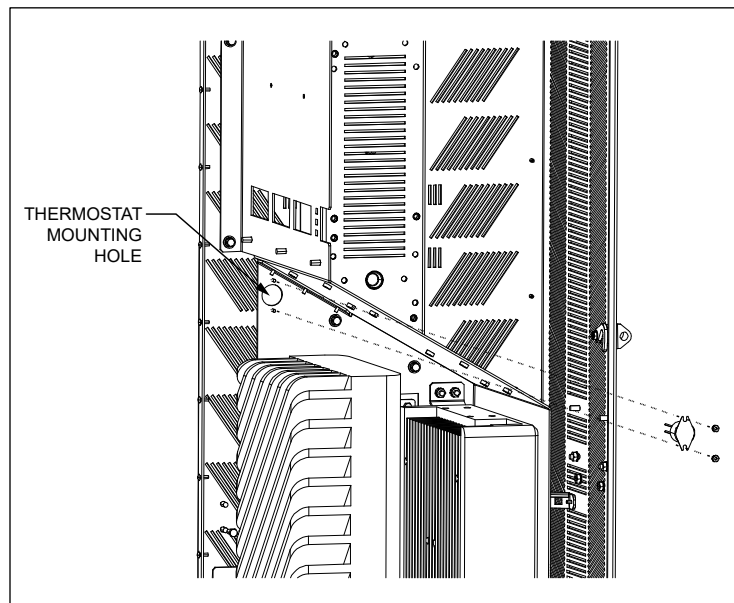

Figure 17 Install Thermostat
3. Install the thermostat onto the studs above and below this hole using two 1/4-20 Keps nuts (Figure 17).